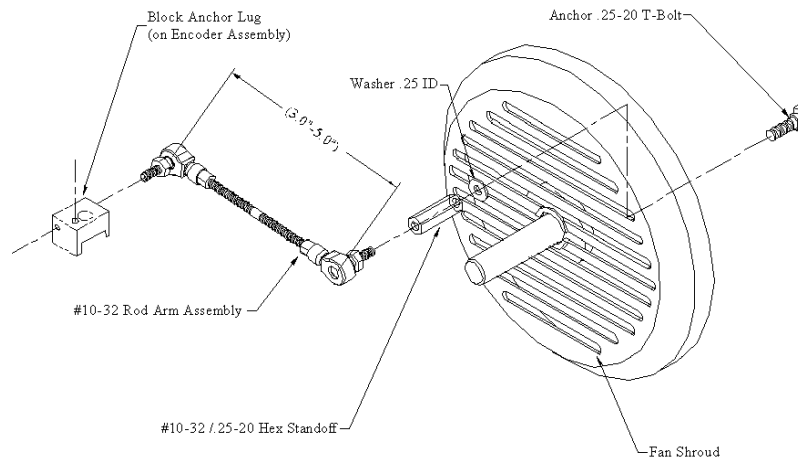

Figure 4: HS56 Anti Rotation Turnbuckle (Motor with Fan Shroud)
Figure 4: HS56 Anti Rotation Turnbuckle (Motor with Fan Shroud)	8
1. Arrange the anchor T-bolt as shown in Figure 4. Slide the anchor bolt into the fan shroud through an available vent.